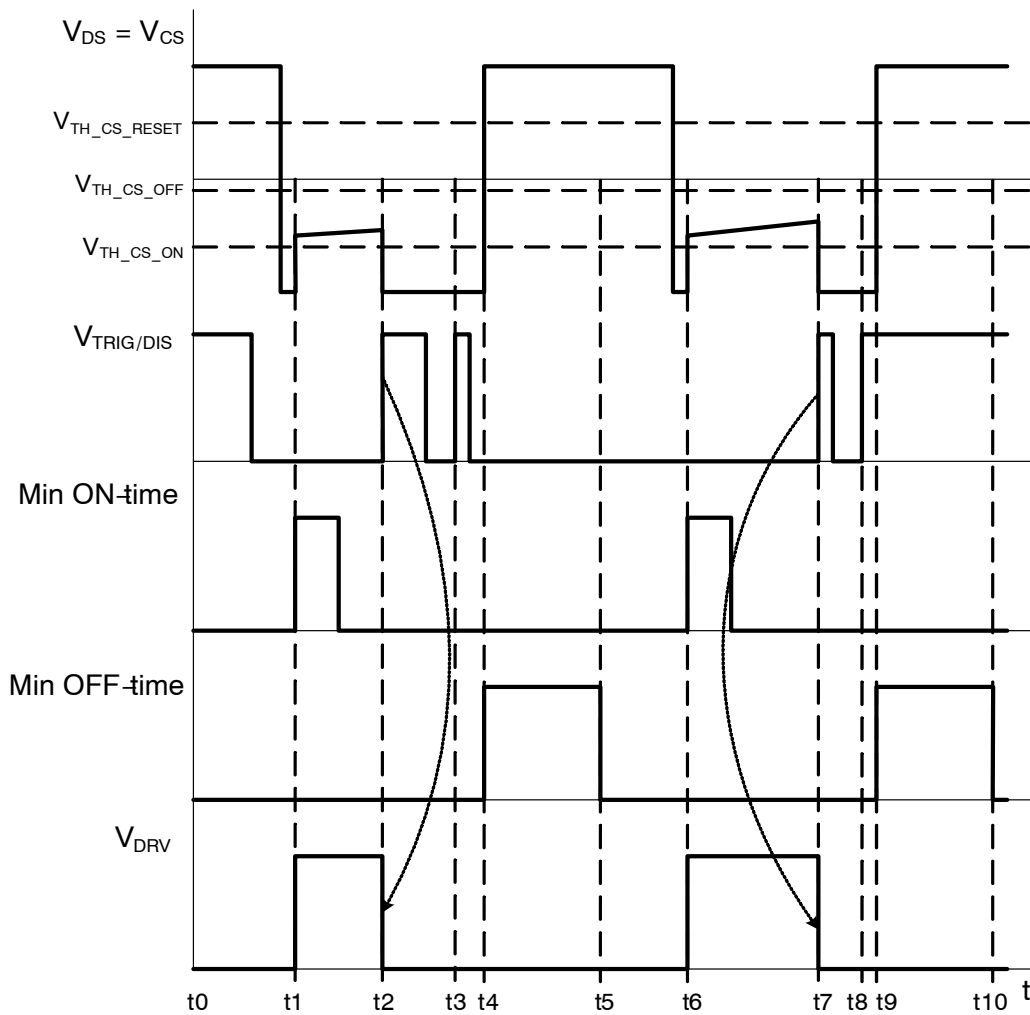

Figure 56. Trigger Input Functionality Waveforms – Two Pulses at One Cycle
Figure 56 shows IC behavior in case the trigger signal features two pulses during one cycle of the VDS (CS) signal. The trigger goes low enables the DRV just before time t_1 and DRV turns-on because the VDS voltage drops under $V_{TH_CS_ON}$ threshold voltage. The trigger signal disables driver at time t_2 . The trigger drops down to LOW level in time t_3 , but IC waits for complete minimum off-time. Minimum off-time execution is blocked until CS pin